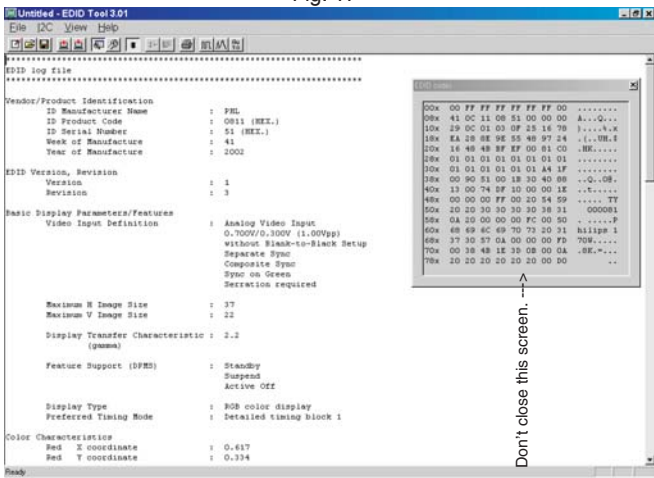

Fig. 17
4. Click  icon (Read EDID function) to read DDC EDID data from monitor. The EDID codes will display on screen as shown in Fig. 17.